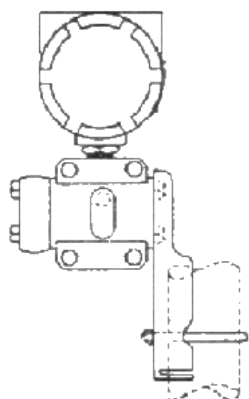

Figure 2-1 The installation of pipe mounting flat bracket
**The installation of pipe mounting flat bracket:** the typical installation as Figure 2-1 shows. Fix transmitter in flat bracket using four bolts provided, and then fix the flat bracket on the vertical pipe of  $\Phi 50\text{mm}$  around with the U-shape bolt provided.